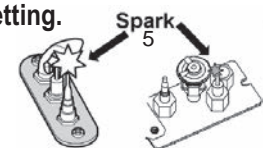

Fig 3
2. SET ON/OFF SWITCH (1) TO "OFF" POSITION.
• Wait five (5) minutes to clear out any gas, then smell for gas, including near the floor. If you smell gas, STOP! Follow "B" in the safety information above on this label. If you don't smell gas, go to the next step.
3. AUTOMATIC IGNITION (fig. 1): Locate the pilot (fig 3.) inside of firebox.
• ON/OFF switch (1) in ON position, MAN-knob (2) in ON position; set Flame Adjustment knob (3) to lowest setting (∩)
• When the pilot is lit, the Flame Adjustment knob (3) will automatically rotate to the highest setting.
4. MANUAL IGNITION (fig. 2): With the window off, locate pilot (fig 3.) inside firebox;
• ON/OFF switch (1) in ON position, MAN-knob (2) in MAN position;
• Set Flame Adjustment knob (3) to the lowest setting (∩);
• Push down the metallic core (4) with a pen or similar instrument; this will establish the pilot gas flow;